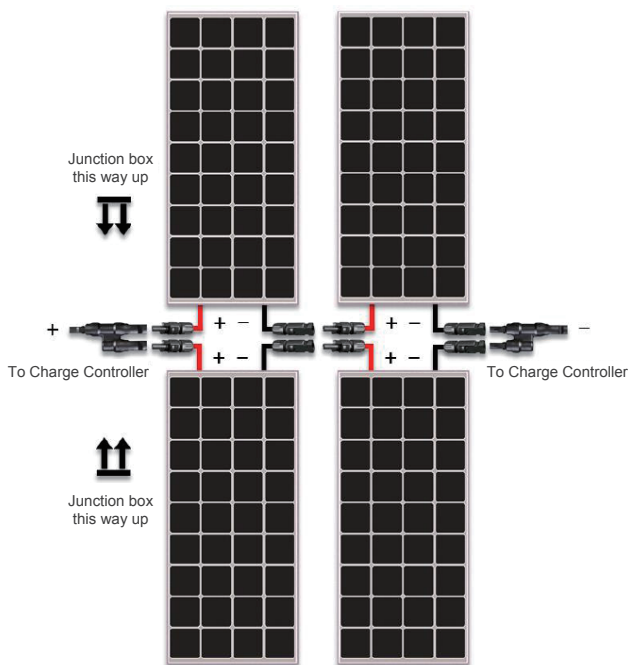

Figure 8.6 Four RNG-100D Panels in series-parallel configuration
For 24V systems, **Fig. 8.6.** Shows two strings of panels in parallel. Each string consists of two panels in series. No additional cabling is required if the solar panels are to be mounted in a **2x2** configuration as shown above. Please note the orientation of the junction boxes. This connection requires a **one (1)** pair of Solar Y Branch Connectors. When one or multiple panels are mounted at different locations- that is, separated by a distance, the panels must be extended with Solar Connector Extension Cables (sold separately).